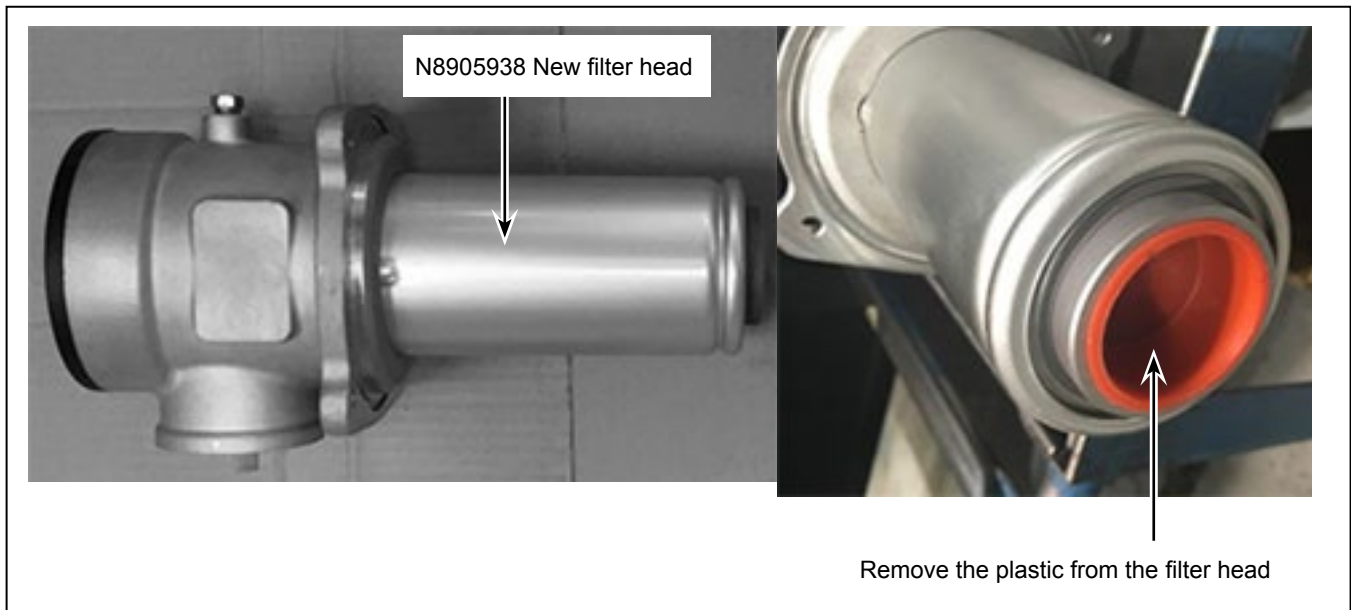

Figure 5 - Preparation of the Filter Head
- 1.23. Remove the plastic cap at the end of the new filter head N8905938. See Figure 5.